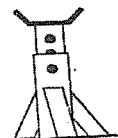

FIGURE 7
5.5 FIGURE 7 below shows various tools used in a workshop.